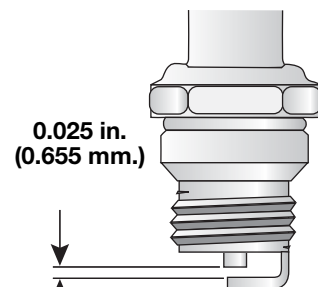

Fig. 39
3. Replace cracked, fouled or dirty spark plug. Set the air gap at 0.025 in. (0.655 mm.) using a feeler gauge (Fig. 39).